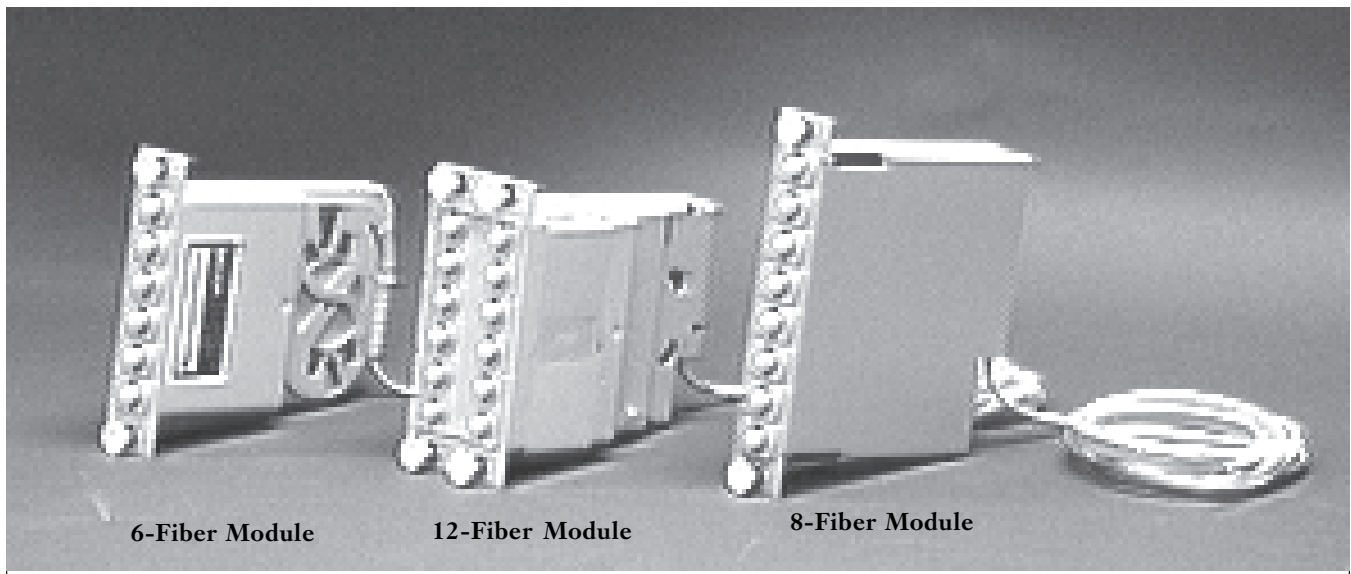

Figure 1
- 2.1 FDC Connector Modules are designed to provide cable strain-relief, slack fiber storage, connectors, and various adapters within a modular housing (Figure 1).